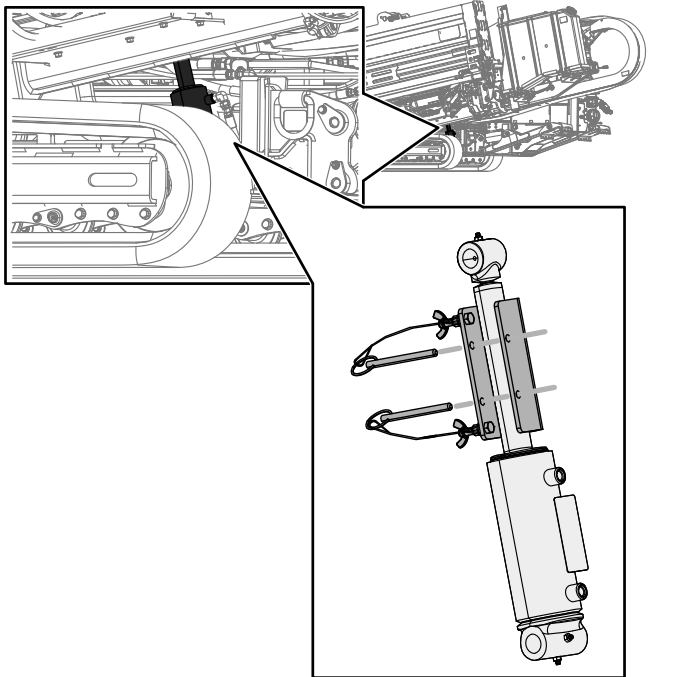

Figure 75
4. Position the cylinder lock over the cylinder rod (Figure 75).
5. Secure the cylinder lock with the cotter pin and clevis pin (Figure 75).